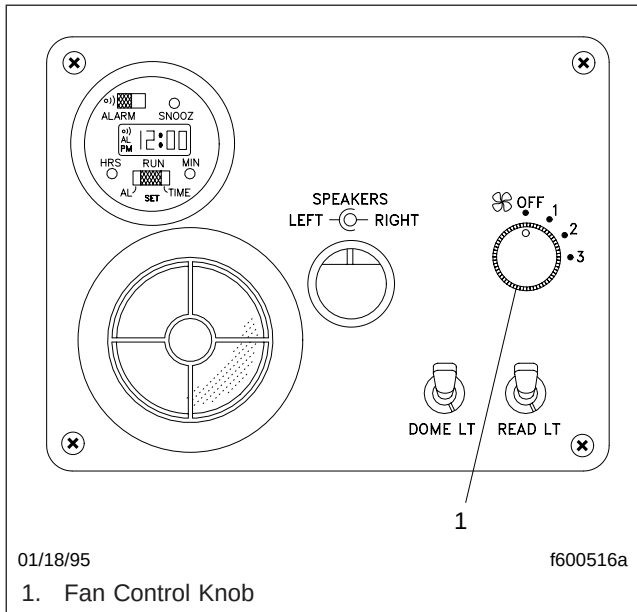

Fig. 4.10, Control Panel for Manual Temperature Control System
1. If equipped with the manual temperature control, do the following (Fig. 4.10):